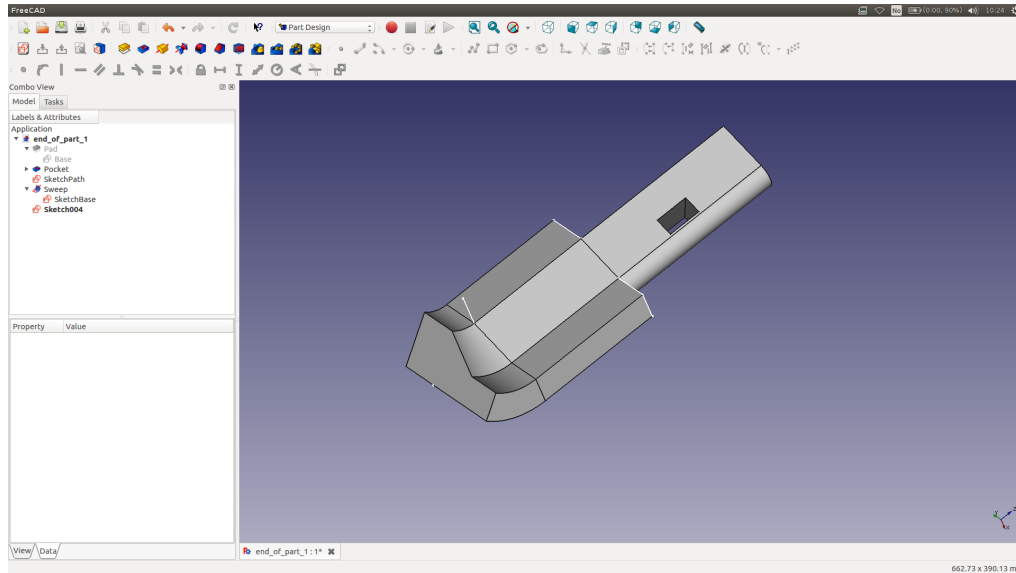

Figure 10
- Inspect the shape you obtain in the 3D view. By default, FreeCAD generated an empty shell. Select the **Sweep** you just created in the **Labels & Attributes** tab, and in the **Data** box set the **Solid** parameter to True. This will update you shape into a solid. It should look like Fig. 10. Here we generated a bulky looking shape, but this utility could be ideal to generate, for example, wings. Have a look in more details at the documentation for both the **Utility to loft** and the **Utility to sweep**.